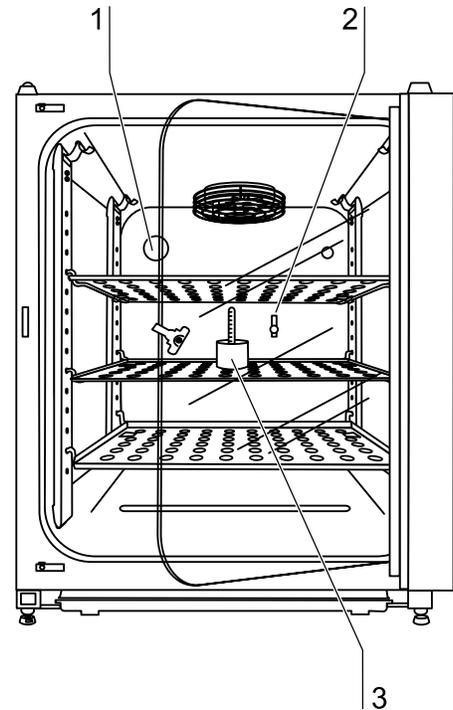

Fig. 21
3. **Fig. 21:** Place measuring instrument [3] onto the center area of the work space.